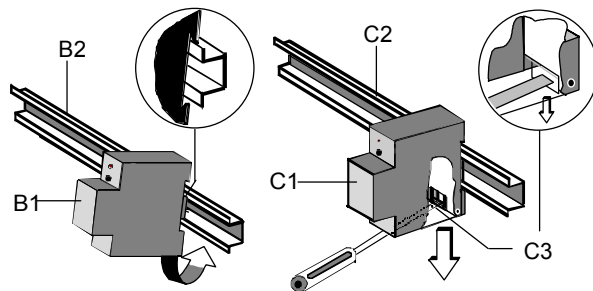

Figure 2: Mounting and dismounting a DIN-rail device
Mounting DIN-rail devices (Figure 2)
- Slide the device (Figure 2, B1) onto the DIN-rail (Figure 2, B2) and
- press down the slide (Figure 2, C3) with a screw-driver and
- swivel the device (Figure 2, C1) from the DIN-rail (Figure 2, C2).